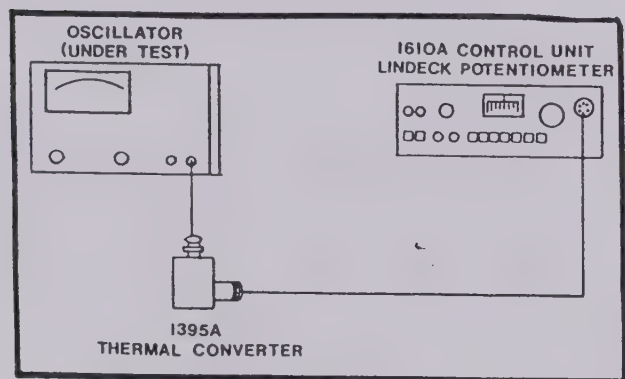

Figure 3-1. Frequency Response Measurements Test Set-Up
The measurement reliability of thermal converter measurements is based on the resolution and signal to noise ratio of the dc output measuring instrument. Figure 3-1 shows a stable output monitoring circuit. The Ballantine 1610A Control Unit is used in the Lindebeck potentiometer mode which uses a variable dc source to buck out the dc potential generated in the 1395. The null meter in the 1610 is used to indicate when the variable dc voltage equals the 1395 output. Resolution to $\pm 1 \mu\text{V}$ is attainable. The 1610 operates on internal rechargeable batteries which improves reading accuracy by avoiding ac mains and ground current
A test set up for making accurate frequency response measurements is shown in figure 3-1. The following steps describe the measurements.
b. Connect the test equipment as shown in figure 3-1 keeping the connecting cable between the oscillator and thermal converter as short as possible. Use shielded low noise cables and ground the reference voltage supply to the chassis ground of the null meter.